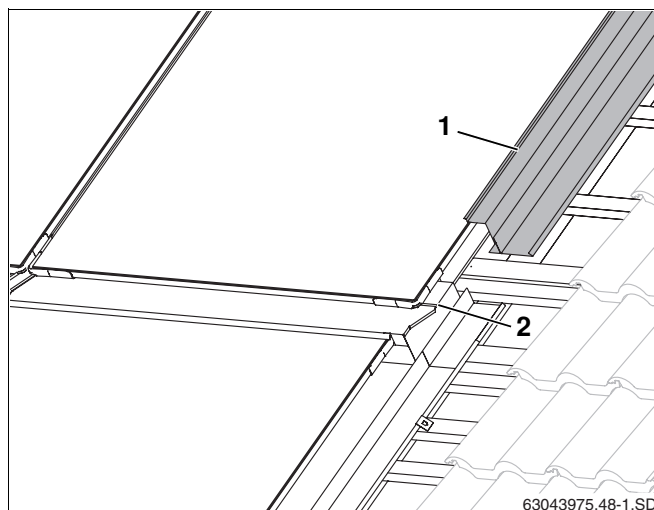

Fig. 53 Upper right facing collector
- Fit the upper side facing collectors (Fig. 53, **Item 1**) in the same way as the lower ones (Chapter 10.2 "Side facing collectors").
- Push the side facing collectors over the collector fold in the middle collectors (Fig. 53, **Item 2**).